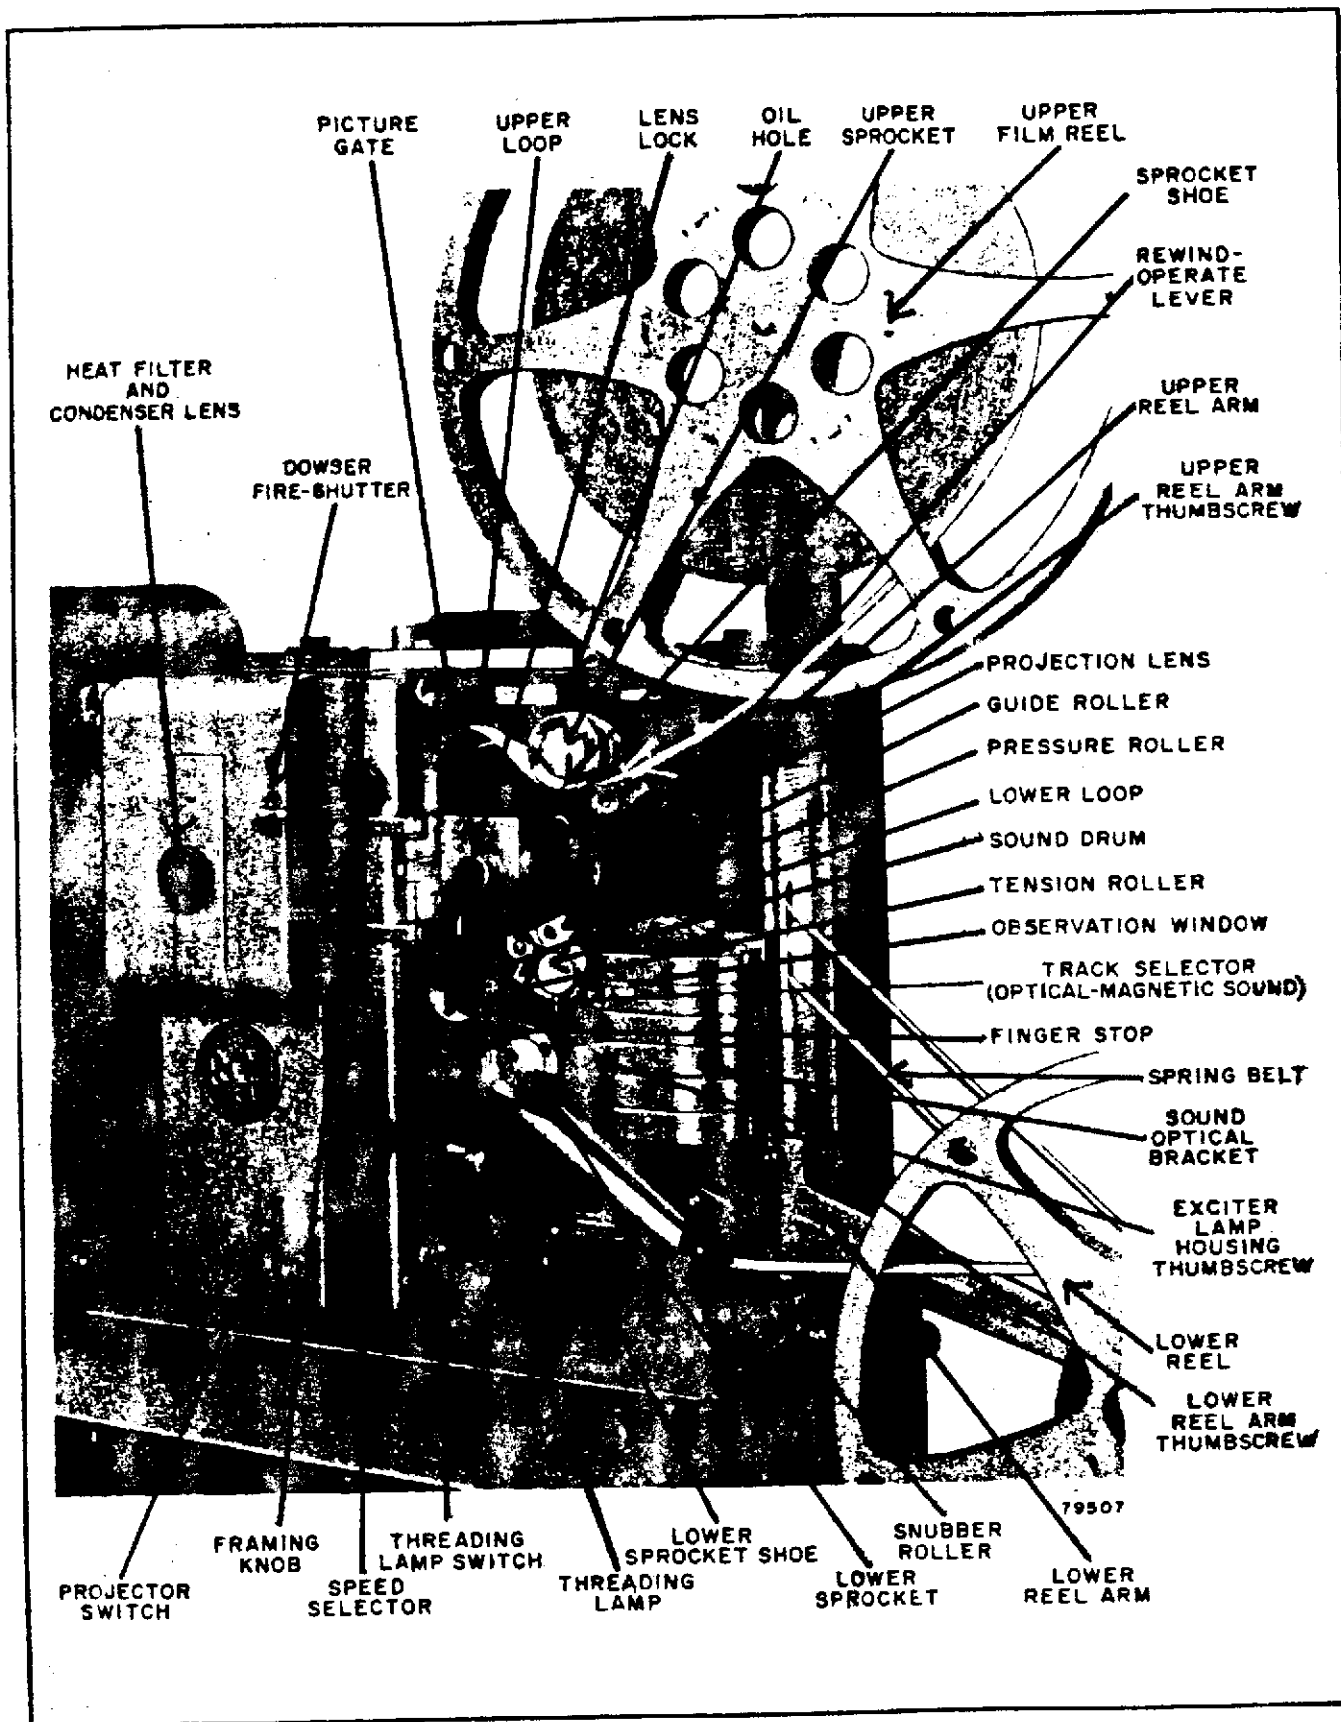

Figure 7 — Operating View of Projector
Fasten the reel arms, see figure 7, in place with the thumbscrews and pull out the spring belts and put them over the pulleys on the arms. Make sure the belts are not twisted.
Strike the arc lamp, and after it is operating steadily, start the projector motor by throwing the PROJECTOR switch on, see figure 7. Turn the SPEED SELECTOR upward to SILENT, or downward to SOUND, as required. Unlatch the dowsers-fire shutter and align and focus the aperture outline on the screen.
Refer to figure 7 and thread the projector in the following manner:
NOTE: The sound lamp lights within 15-30 seconds after the amplifier power switch has been turned on. It can be observed through the observation window, see figure 7, in its housing.
NOTE: Occasionally, damaged film may prevent the intermittent pull-down claw from properly engaging the sprocket holes in the film. This may result in the loss of the lower loop. When this happens, the picture on the screen is blurred. The difficulty can be remedied immediately, without stopping the machine, by placing a finger above the film as it emerges from the lower end of the picture gate and quickly pulling down on the film until the finger strikes the finger stop, see figure 7.
3. Turn the TRACK SELECTOR to MAGNETIC, see figure 7, and operate the projector in the manner described under *Operating an Optical Sound Projector*, above.